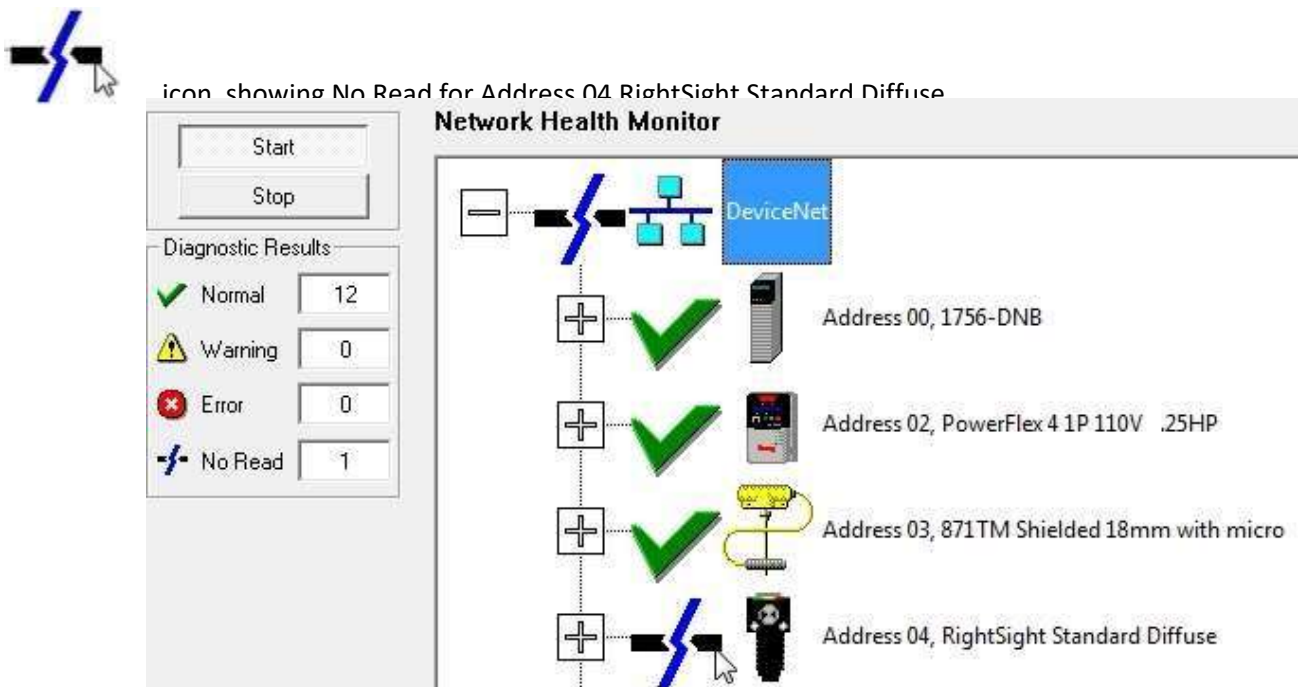

Figure 12-A
15. Once the Diagnostic utility has scanned the DeviceNet network the Network Health Monitor window opens. – See Figure 12-A